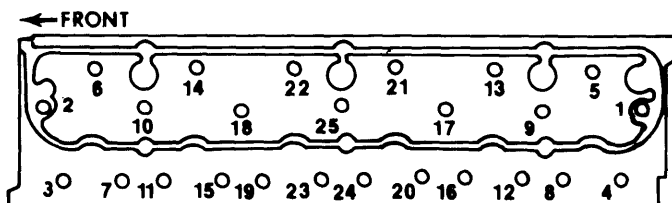

Fig. 1 Cylinder Head Bolt Removal Sequence
3) Disconnect alternator bracket and engine lifting fixture and position to one side. Remove cylinder head bolts in sequence shown in Fig. 1.